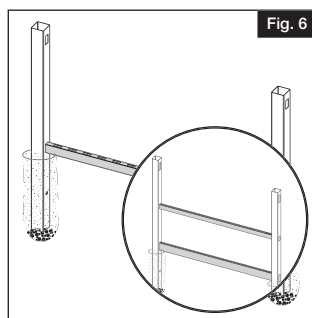

Fig. 6
- Insert bottom rail into bottom post hole routes of both posts (Fig. 6).